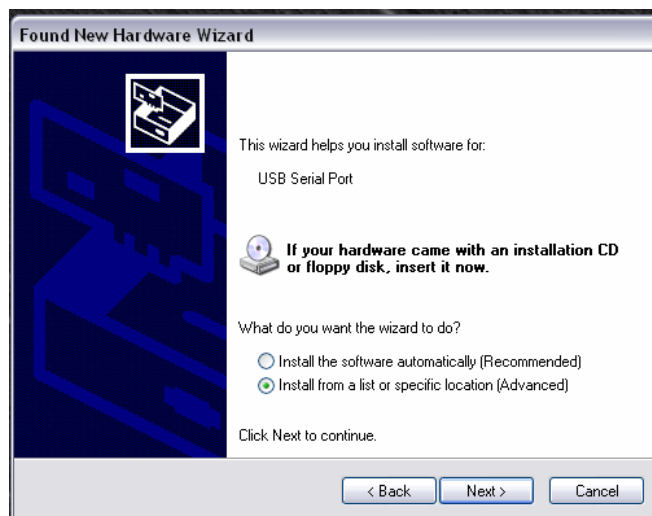

Figure 5: Select the Specific Location Option
8. Select “Install from a list or specific location (Advanced),” then click **Next**. See Figure 5.